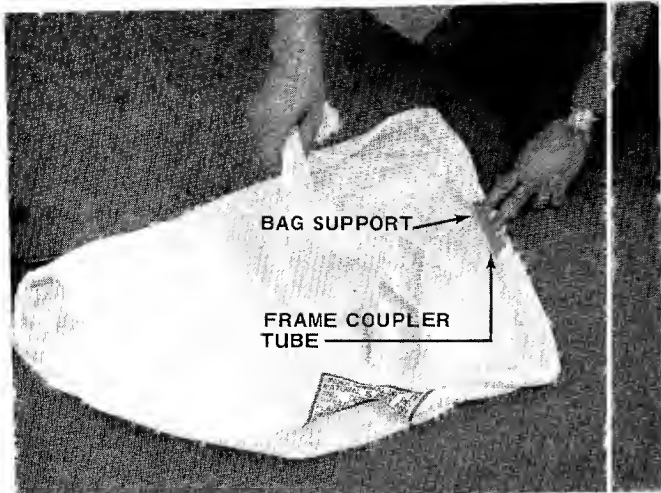

FIGURE 2
3. Attach the two bag supports (2) together with frame coupler tube (1). See figure 2.